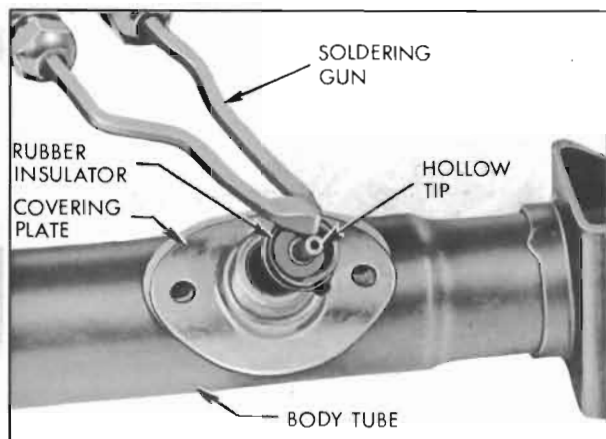

Figure 11-11—Disassembly of Body Tube
6. With a soldering gun, melt the solder at the end of the tip of the wire, and remove the hollow tip. See Figure 11-11.
3. Using a soldering gun, solder the hollow tip to the wire securely. See Figure 11-11.